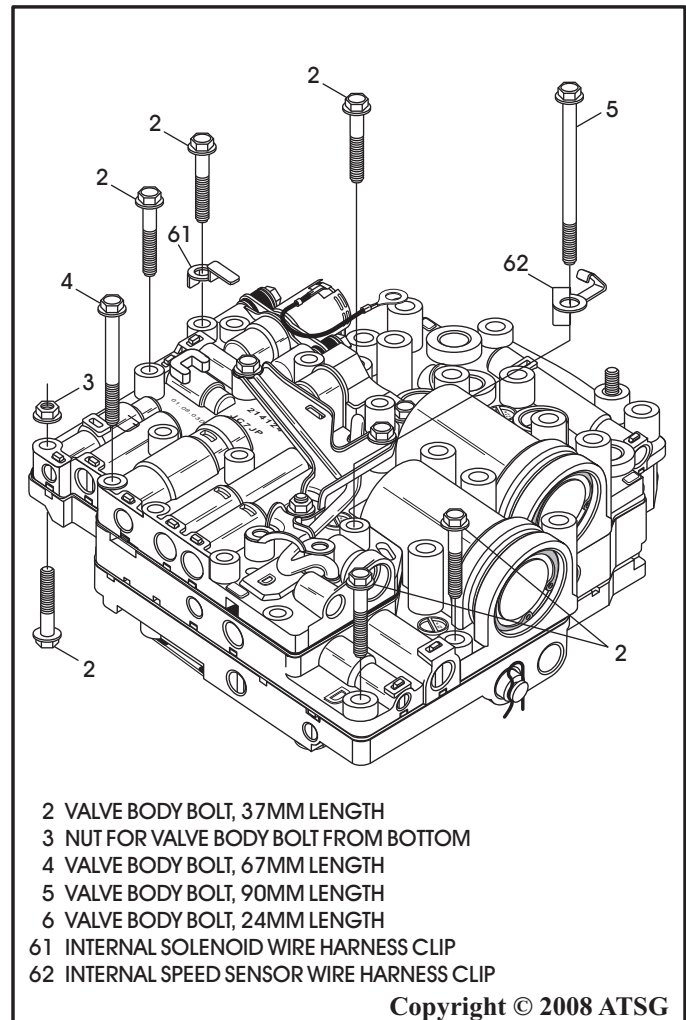

Figure 108
48. Install a 37mm bolt (2), from the bottom, in the lower left side of the valve body, as shown in Figure 108, install nut (3), hand tighten only.
49. Install five 37mm bolts (2), in locations shown in Figure 108, and hand tighten only.
50. Install one 67mm bolt (4), in location shown Figure 108, and hand tighten only.
51. Install one 90mm bolt (5), along with the wire harness retainer (62), in the location shown in Figure 108, and hand tighten only.